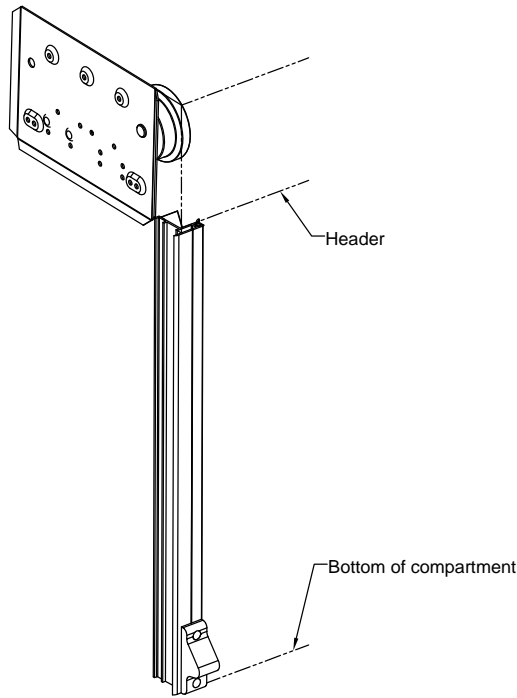
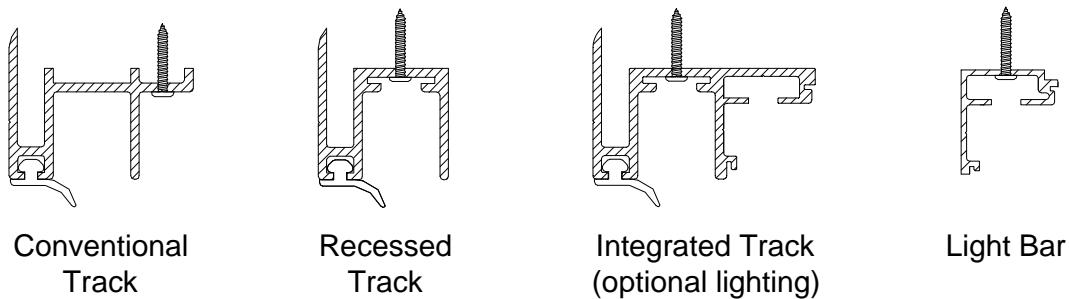

Fig. 2
Fig. 2a
- c) Position the track between the header and the bottom of the compartment. Make sure the bottom of the track touches the bottom of the compartment. (Fig 2.) The finishing flange should be flush against the skin of the vehicle. Optional track configurations are shown in Fig. 2a.